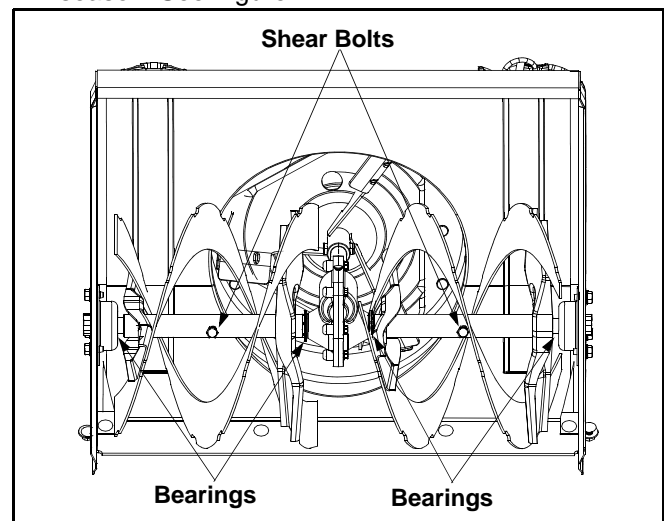

Figure 17
- At least once a season, remove shear bolts on auger shaft. Oil or spray lubricant inside shaft. Also lubricate the auger bearings at least once a season. See Figure 17.
The augers are secured to the spiral shaft with two shear bolts and hex lock nuts. If the snow thrower hits a foreign object or ice jam, the snow thrower is designed so that the bolts may shear. See Figure 17.